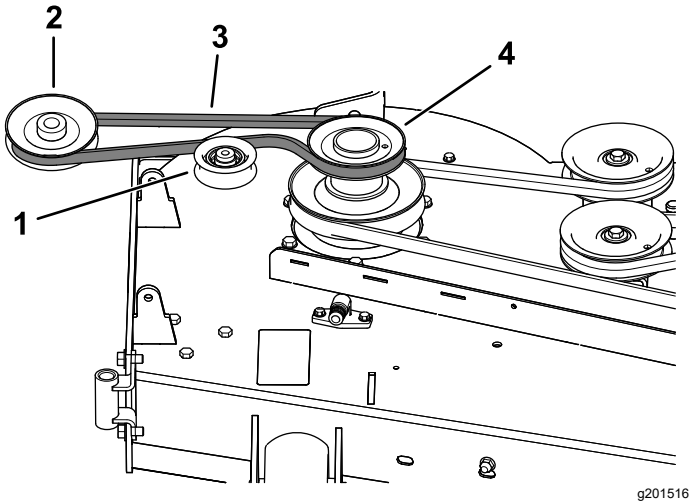

Figure 25
1. If necessary, install the belt onto the blower pulley (Figure 25).
1. Install the belt around the blower pulley (Figure 25 and Figure 26); refer to 11 Installing the Blower Assembly (page 16).
4. Route the belt around the drive pulley as illustrated in Figure 25 and Figure 26.